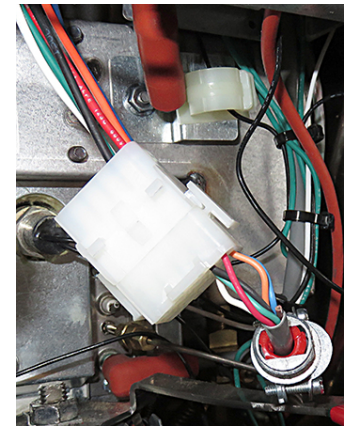

Figure 21
30. Connect the new 1083454 harness female connector to the male connector of the 1087490 harness in step 8, that was routed to the front from the basket lift (see Figure 21).